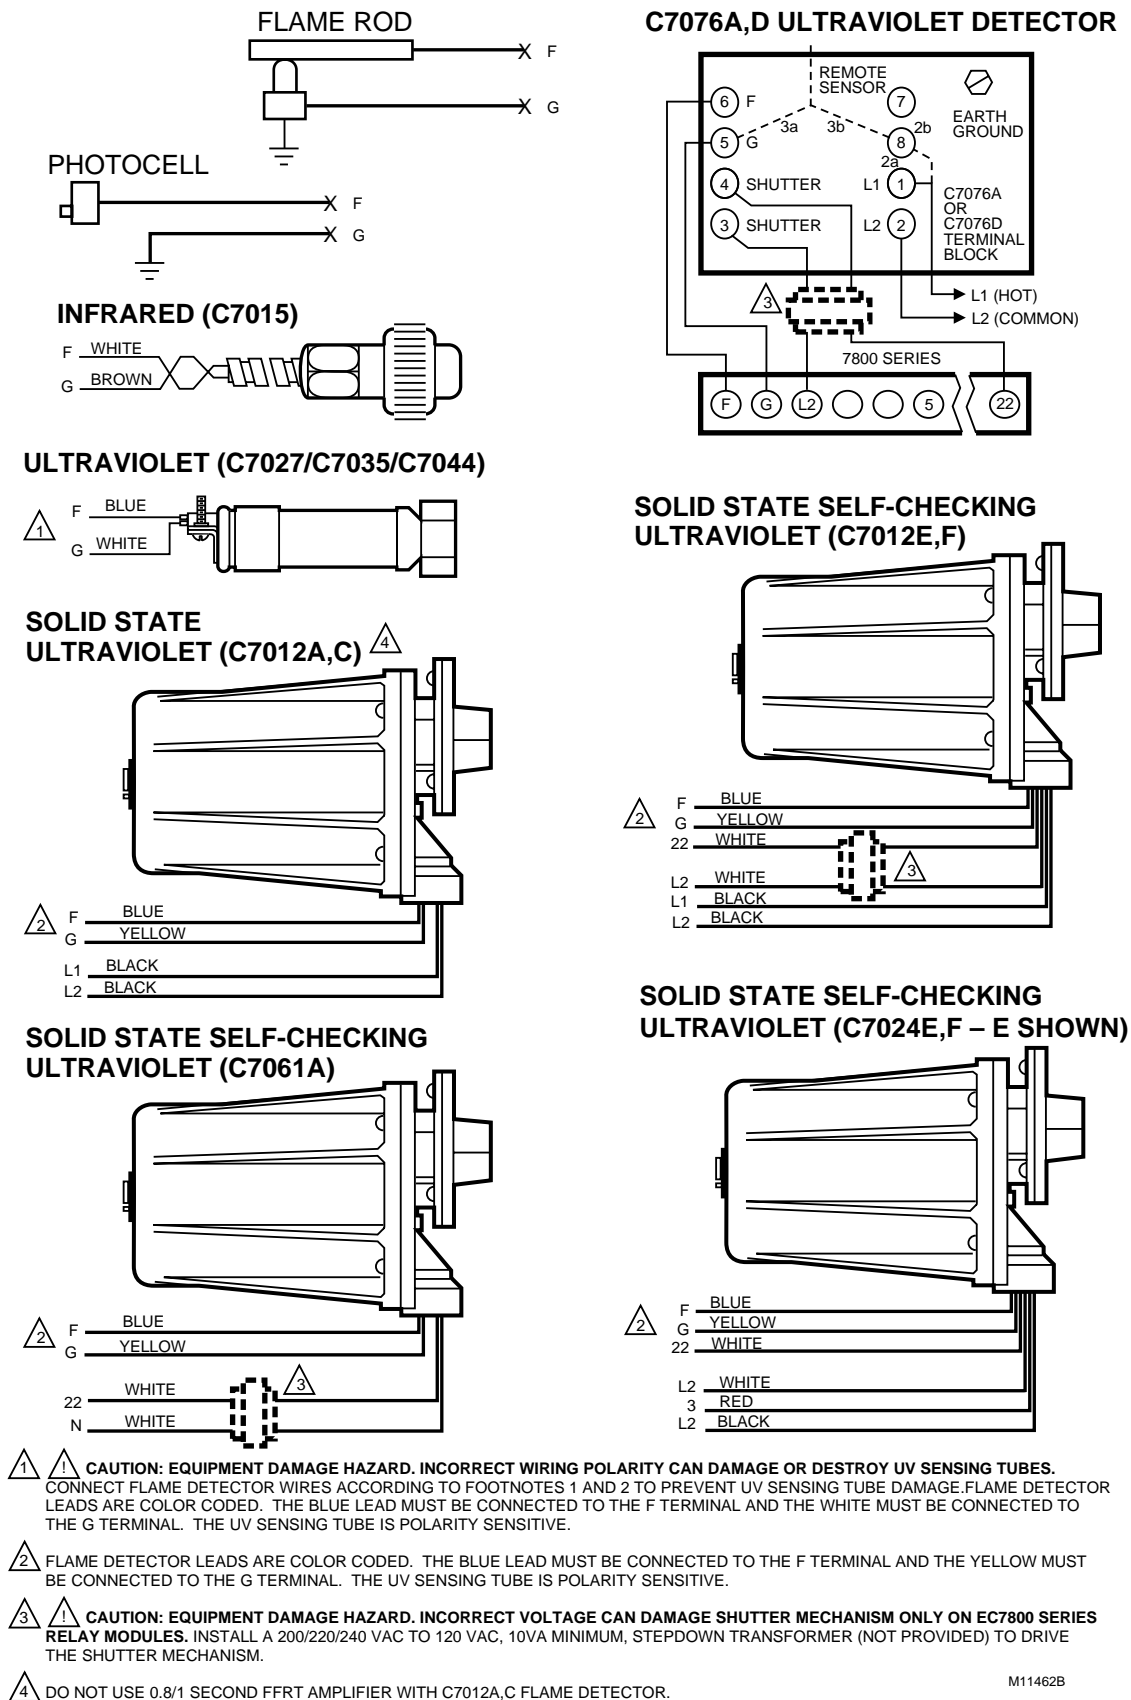

Fig. 3. Flame detector wiring.
2. Refer to Fig. 3 for proper flame detector wiring.
Flame detector wiring is shown in Fig. 3.